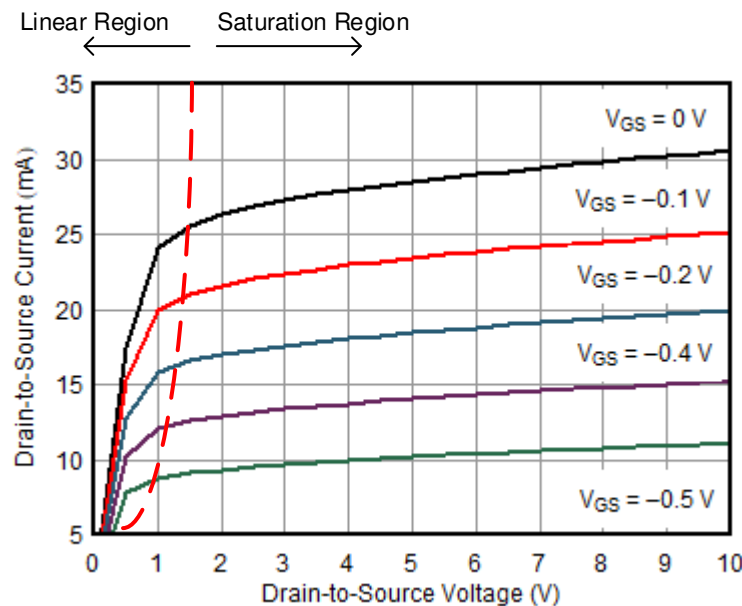

Figure 8-1.  $V_{DS}$  vs  $I_{DS}$
- For  $V_{GS} > V_{GSC}$ : Two modes of operation can exist depending on  $V_{DS}$ . When  $V_{DS}$  is less than the linear (saturation) region threshold (see Figure 8-1), the device operates in the linear region, meaning that the device behaves as a resistor connected from drain-to-source with minimal variation from any changes in  $V_{GS}$ . When  $V_{DS}$  is greater than the linear (saturation) region threshold,  $I_{DS}$  has a strong dependence on  $V_{GS}$ , where the relationship is described by the parameter  $g_m$ .